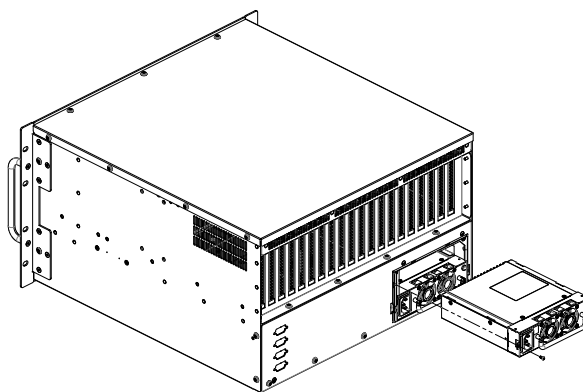

Figure 3.5 Replacing the redundant power supply module
3. Loosen the screws on the module. Grab the handle and gently pull the module out (see Figure 3.5).